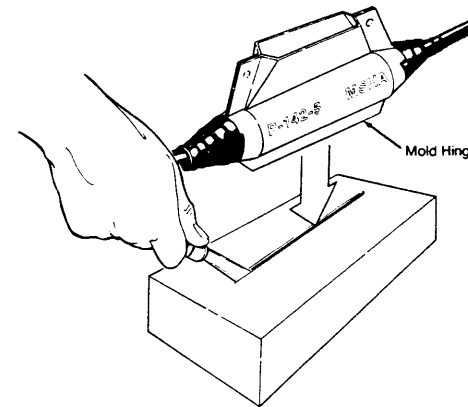

Figure 6
- Make a straight knife slit in cover of closed carton that is slightly longer than the mold's hinge (Figure 6).
- Position carton beneath splice and press the mold's hinge into the knife slit. This holds splice in position for compound pouring (Figure 6).